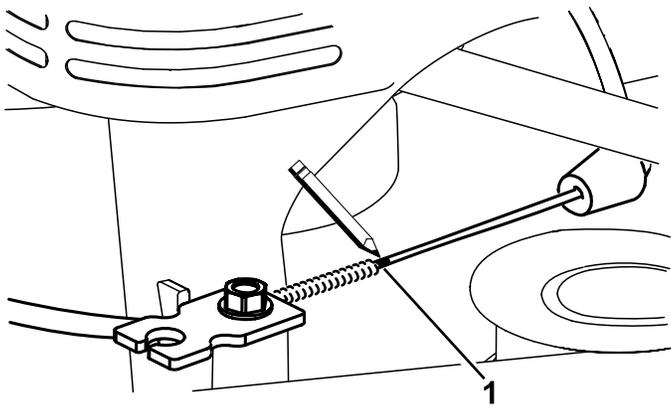

**Figure 44**
6. Pull the cable jacket to remove slack (Figure 44).